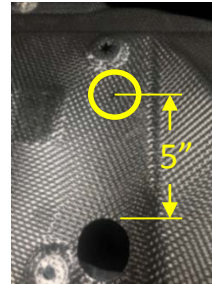

Figure 2
- Remove heat shields** - Using a 10mm socket remove the nuts holding the heat shield, using a 7mm socket remove the screw holding the heat shield to the wheel well liner, remove the heat shield. Cut a 1.5" hole forward of the center attachment in the heat shield to clear the middle fastener for the hitch, see **Fig. 2**. Set fasteners aside for reinstallation.